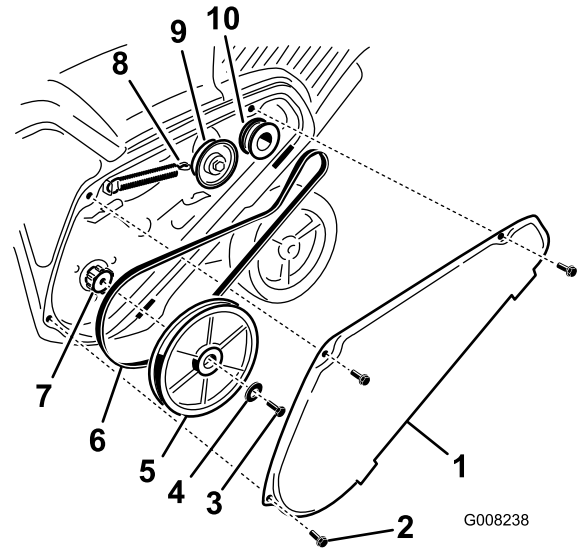

Figure 27
1. Remove the drive belt cover by removing the 3 bolts as shown in Figure 27.
2. Unhook the brake spring from the idler arm to release the belt tension (Figure 27).
3. Remove the screw and curved washer that holds the rotor pulley (Figure 27).
4. Remove the rotor pulley and the drive belt (Figure 27).
Note: Route the new drive belt first around the engine pulley, then the idler pulley, and finally around the loose rotor pulley positioned just above the rotor shaft (Figure 27).
6. Install the rotor pulley onto the rotor shaft (Figure 27).
7. Install the curved washer and the rotor pulley bolt and tighten them securely (Figure 27).